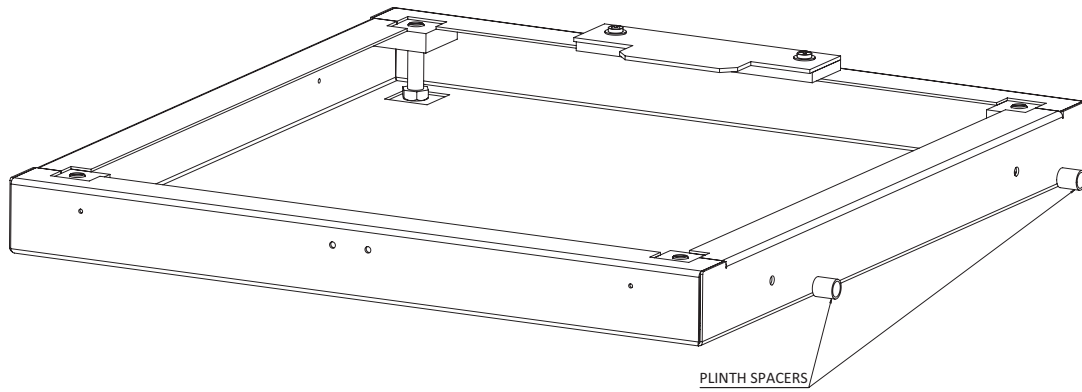

Fig. 10.2
5. When fitting the Module against a Hotcupboard there should be a gap of 16.5mm which is achieved by using the spacers provided (See **Fig. 10.2**).
5. Slide Module onto plinth until rear tongue bracket engages fully into rear of base plate slot, (See **Fig. 10.2**). Ensure the appliance is aligned squarely with the plinth then proceed to engage the front location bracket assembly into the slot on the underside of the base plate. Once satisfied that the front tongue bracket is engaged, lock it into place by tightening the two M6 screws fully.